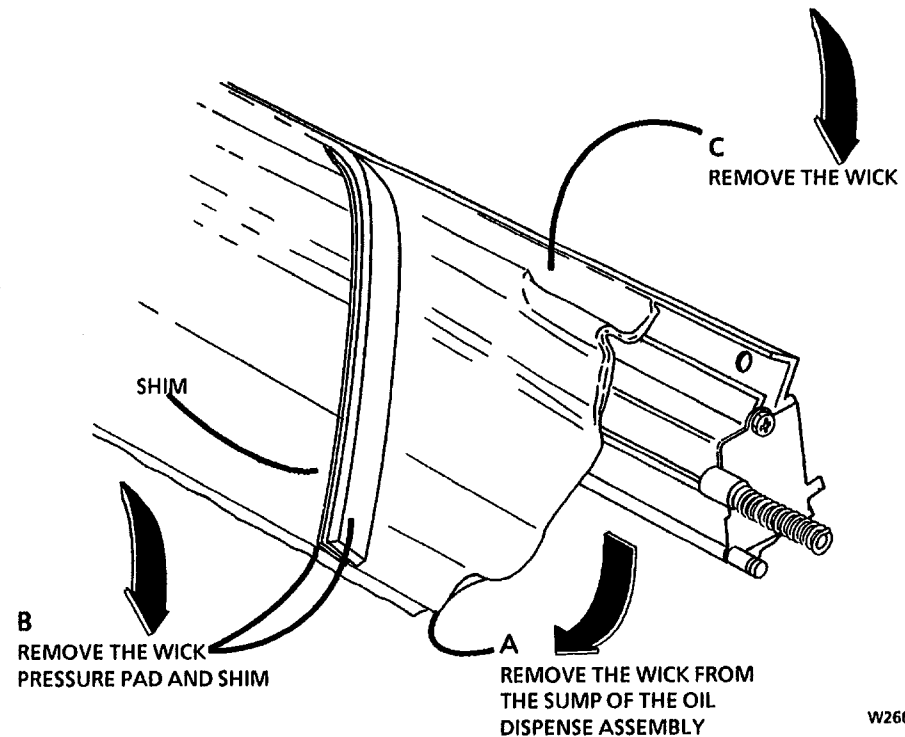

Figure 1. Removing the Wick
3. (Figure 1): Remove the Wick.